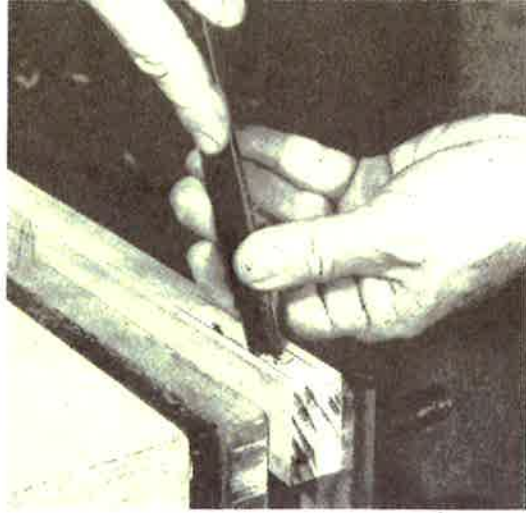

Fig. 15-6. Vertical chiseling. As you push the chisel with one hand, guide the blade with the other.
1. Fasten the wood securely in a bench vise (Fig. 15-6). You can also hold it firmly on a bench hook.
3. Hold the chisel with one hand and guide the blade with the other (Fig. 15-6). The guide hand serves as a brake.
4. Push the chisel and apply a shearing cut as shown in Figs. 15-6 and 15-7.